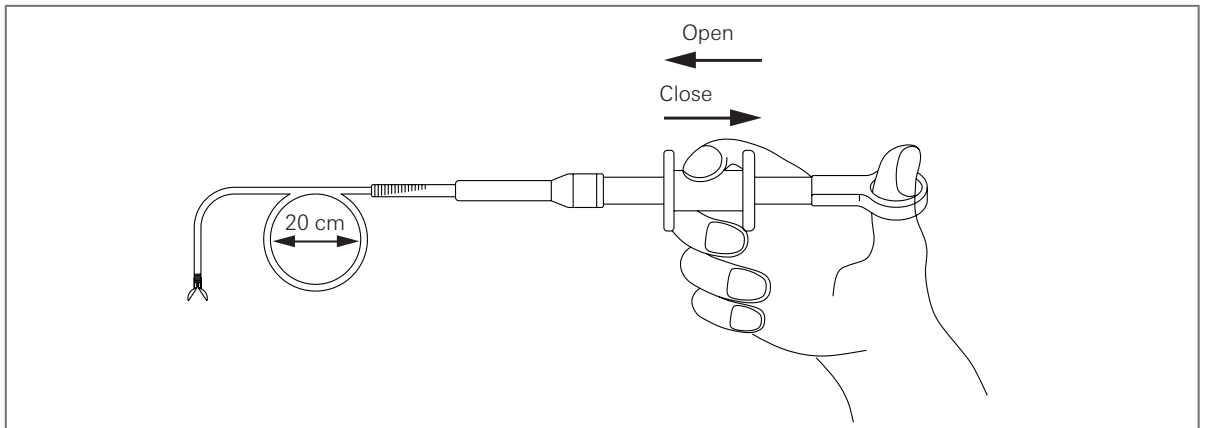

Figure 3.7
- Bend the biopsy forceps into a circle with the diameter of 20 cm. When slightly operating the biopsy forceps, make sure that the head of the biopsy forceps can be opened or closed smoothly. (See Figure 3.7)